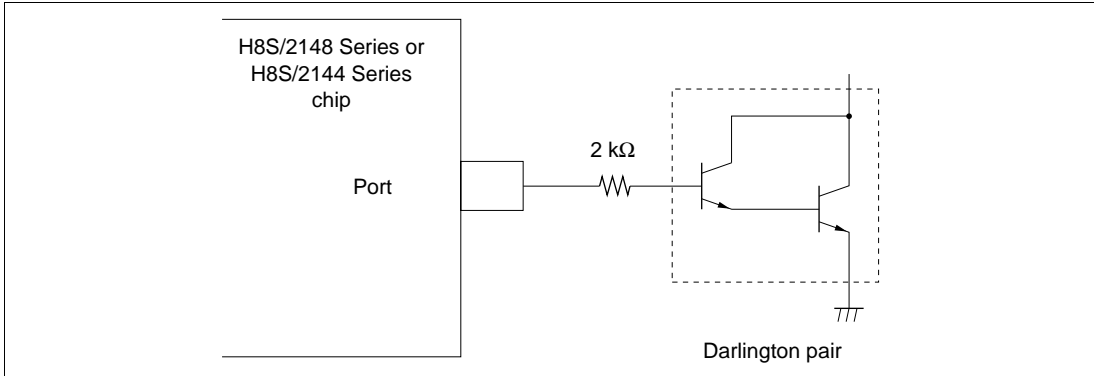

Figure 25.1 Darlington Pair Drive Circuit (Example)
2. When driving a Darlington pair or LED, always insert a current-limiting resistor in the output line, as show in figures 25.1 and 25.2.